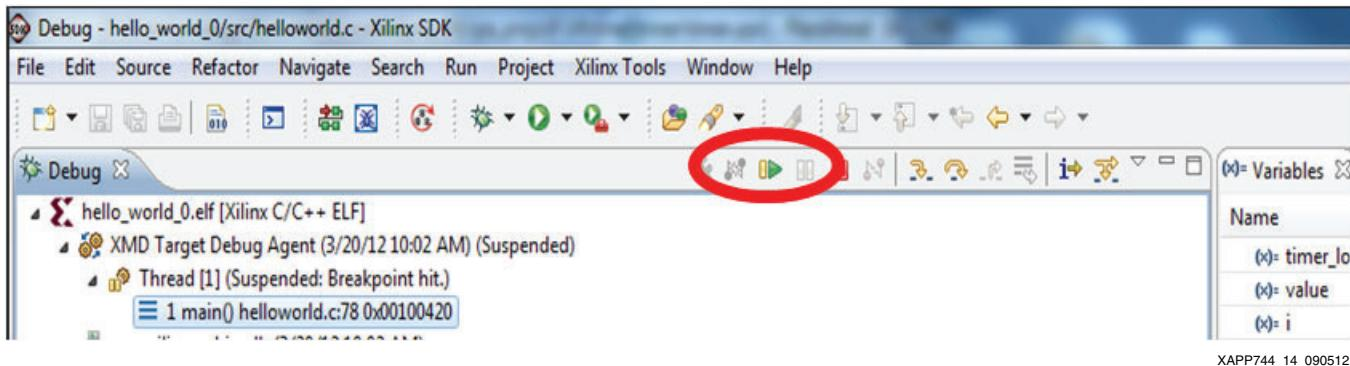

Figure 14: Step Over Selection
- In the SDK tool, step through the program by clicking the **Step Over** button as shown in Figure 14.